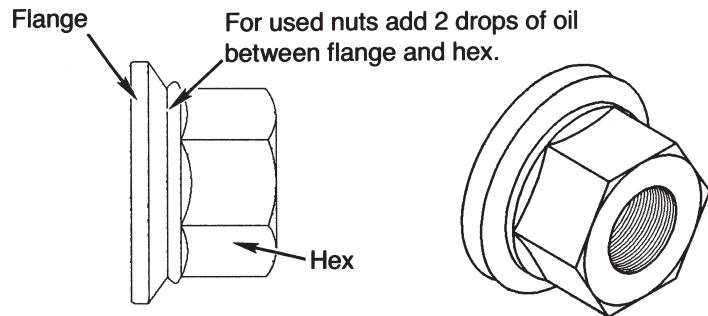

Figure 13
- Before reusing flange nuts that have already been used in service, apply 2 drops of 30 weight oil at one point between the flange and the hex. This will allow the parts to rotate freely and provide the proper clamping force when tightened. (See Figure 13.) Excessive lubricant is not desirable. It will not improve nut performance. And it makes the nuts hard to handle, attracts dirt to the nuts, and may cause unsightly appearance to the wheel. Only used nuts need to be lubricated.